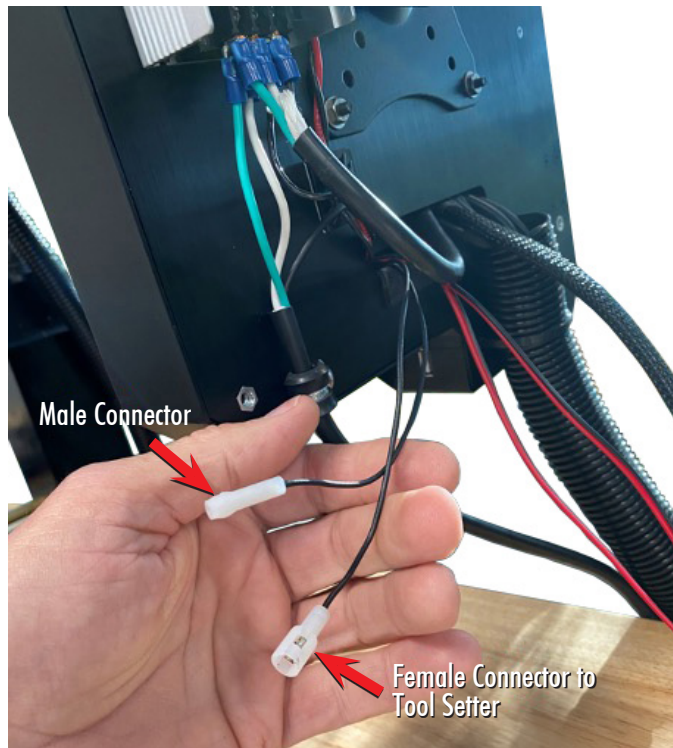

FIGURE 1
1. There are two black cables coming out of the rear of the Touch control (see Figure 1).